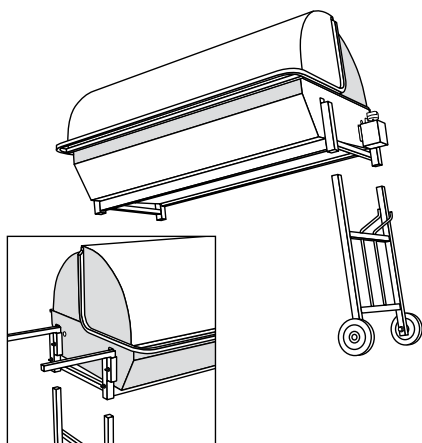

FIGURE F6
1. Assemble the Wheel Leg End first. With one person standing at the control end of the Roaster, lift the unit. The other person inserts the Wheel Leg End (Figure F6). Ensure that the arms of the gas bottle bracket are facing out.